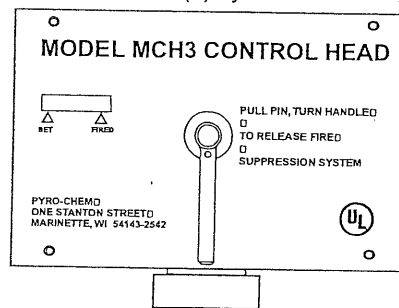

Figure 2-5. Mechanical Control Head.
► actuate a maximum of five (5) cylinders. See **Figure 2-5**.